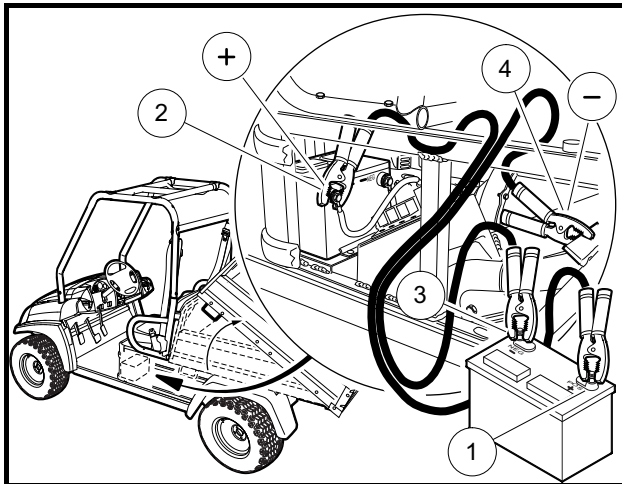

Figure 3-11 Jump Starting
4. Locate the vehicle battery on the driver side of the vehicle under the cargo bed (**Figure 3-11, Page 3-7**).
5. Connect the end of the first cable (1) to the positive (+) terminal of the booster battery. Connect the other end of the same cable (2) to the positive terminal of the vehicle battery. **See DANGER “Battery – Explosive gases!...” in General Warning, Section 1, Page 1-2.**
6. Connect the end of the second cable (3) to the negative (-) terminal of the booster battery. Connect the other end of the same cable (4) to the battery frame ground.
8. After the engine has started, remove the frame ground (-) cable (4) first. Remove the cable from the positive terminal (2). Then remove the cables from the booster battery. **See following CAUTION.**